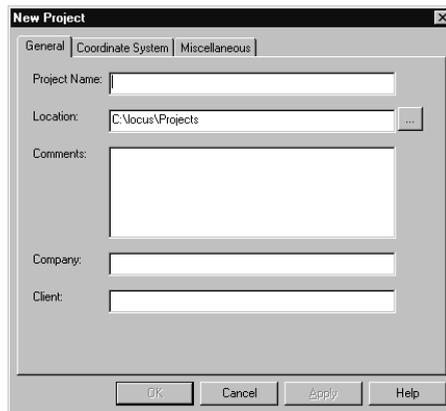

Figure 3.2. New Project Dialog Box
3. Click on **Create a new project**. The **New Project** dialog box opens, Figure 3.2.